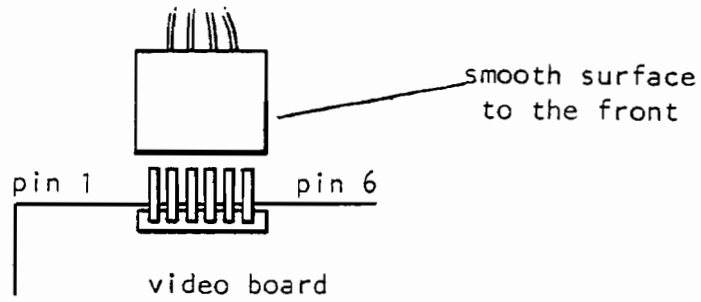

FIGURE 5
7. Connect video connector (MOLEX 6 PIN PLUG) to video output connector on video board. See figure 5.